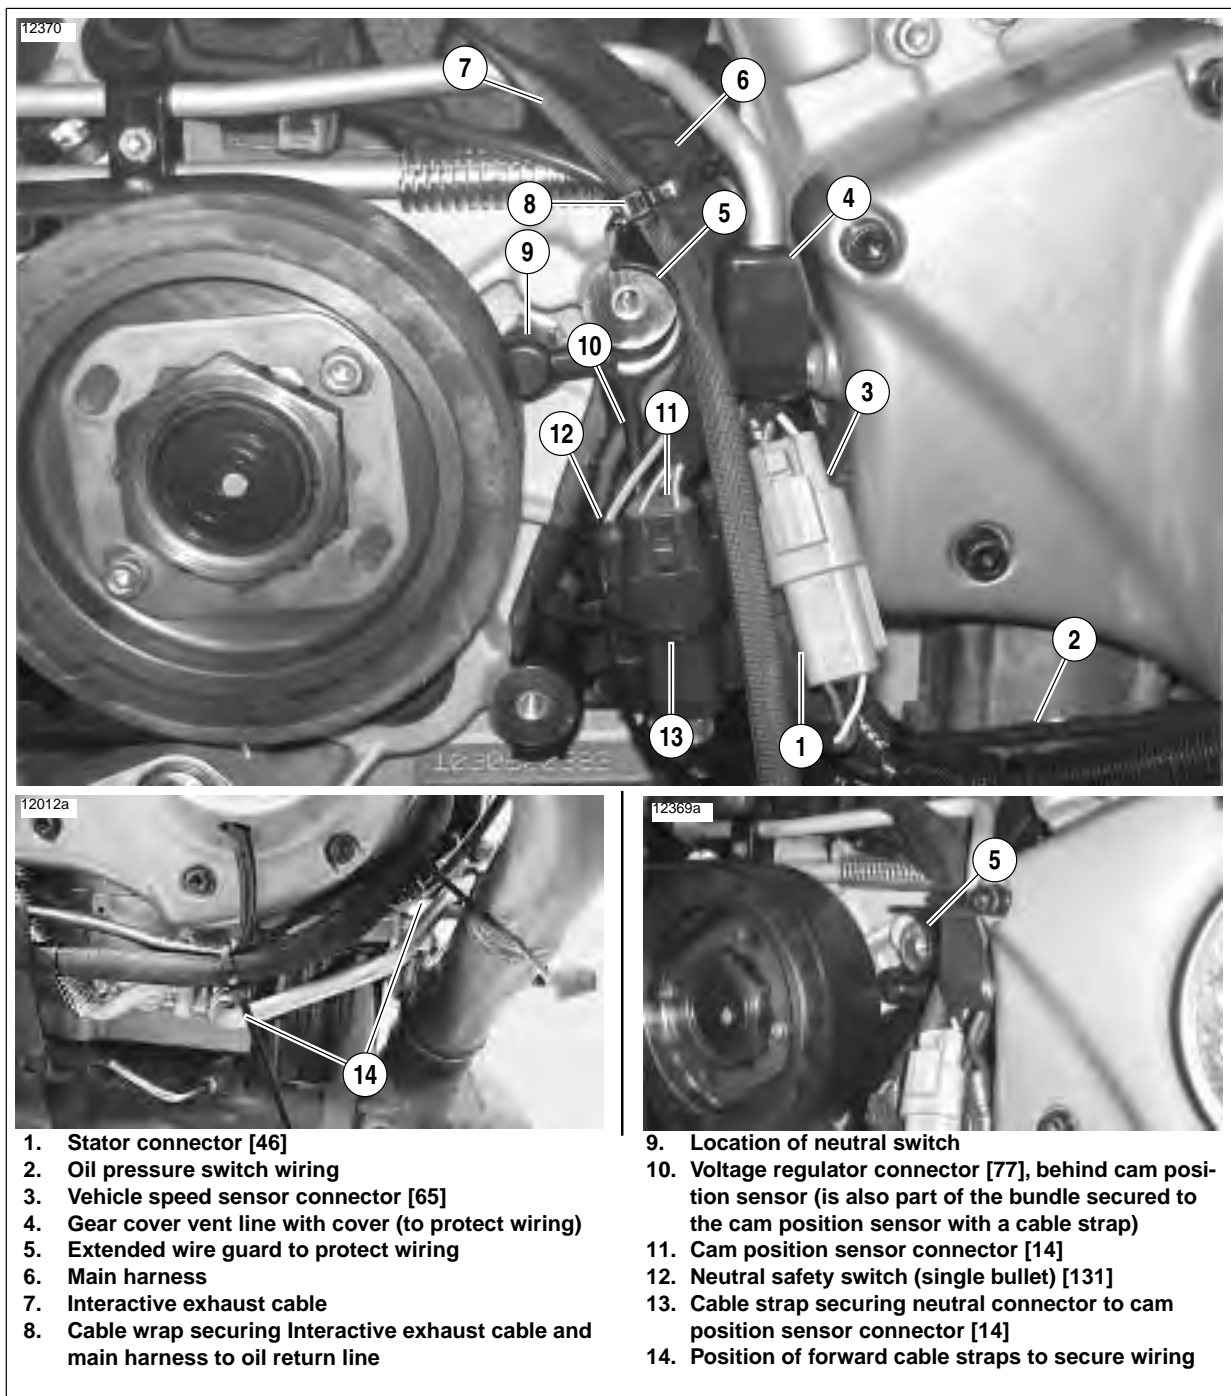

Figure 7-100. Sprocket Cover Wiring and Connections
10. See Figure 7-100. Connect the neutral safety switch (single bullet), and the cam position sensor (3-pin black).
11. See Figure 7-100. Using a cable strap, secure the loop of the neutral safety wire to the cam position connector (13) under the attachment clip on the connector.